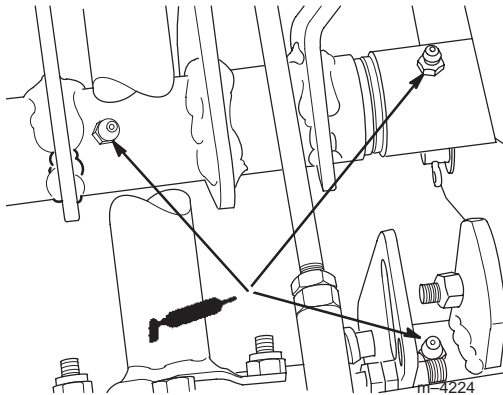

Figure 34
4. Lubricate the three grease fittings (Fig. 34).